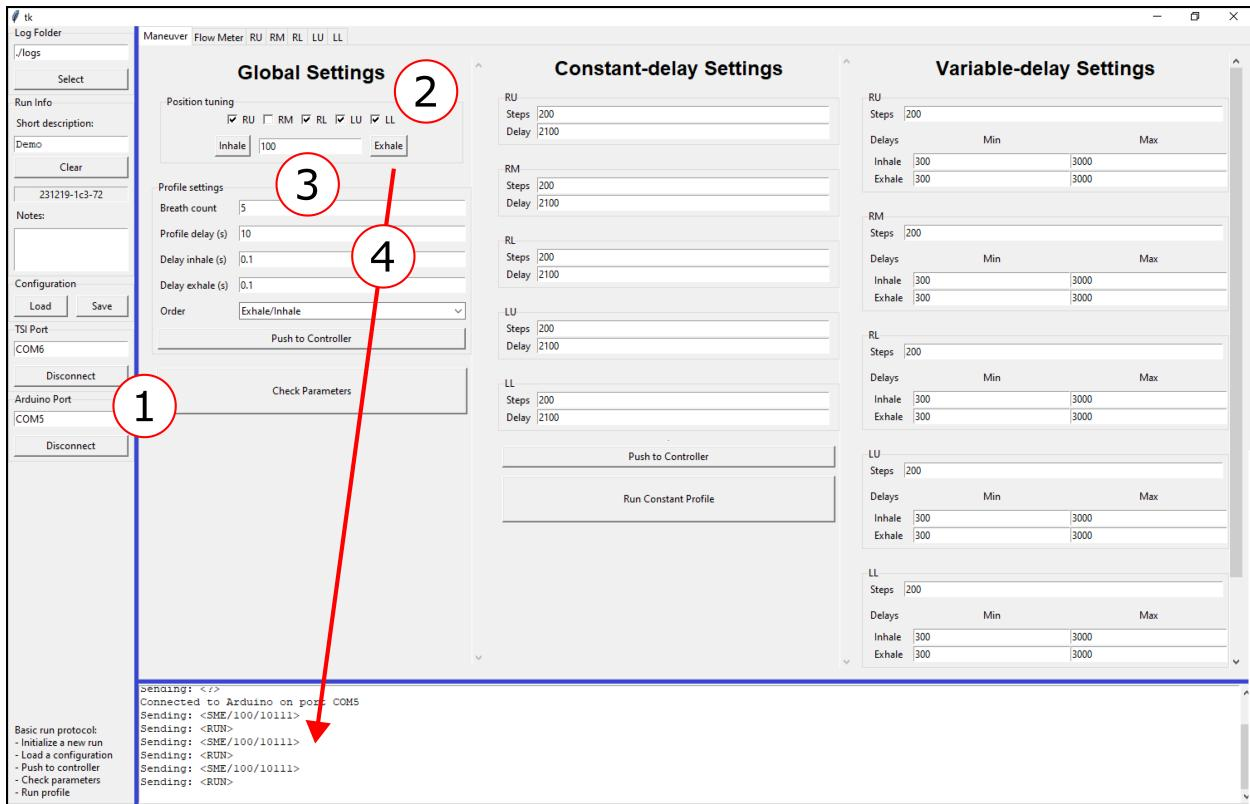

Figure 6: Lobe positioning. Tune the position of each lobe after the motors are powered on.
**Figure 6** shows the process of tuning a lobe position via the GUI. Typically, the gears are first set to a standard “home” position when the motors are powered off. This function can be used to set the status of each lobe before performing a run or while testing functionality.